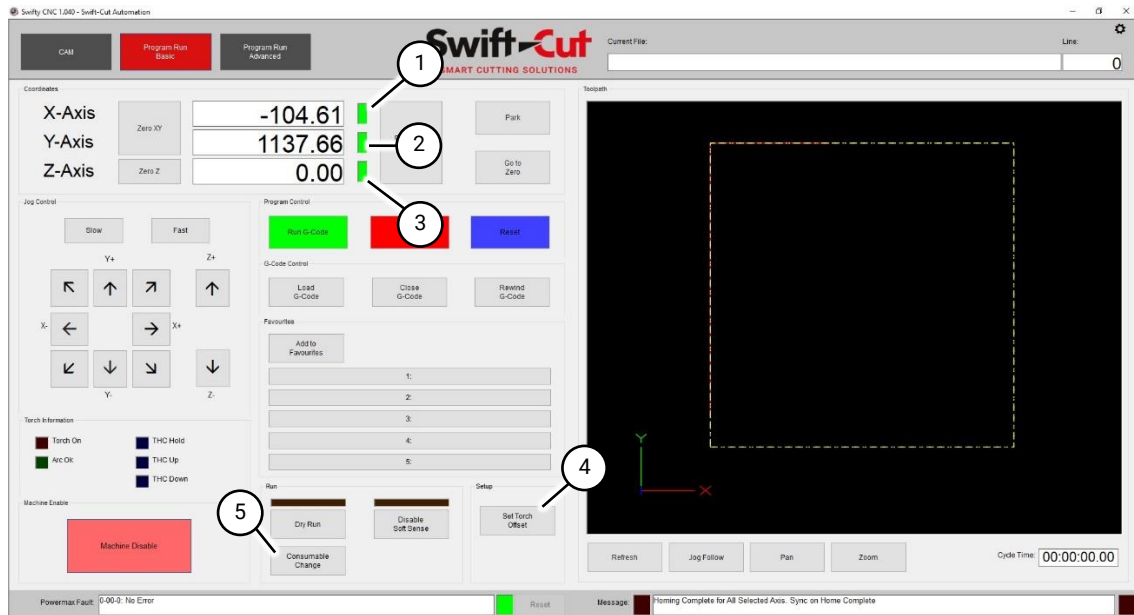

Fig 65 X, Y and Z axis illuminated
5. The X, Y and Z axis reference indicators (Fig 65 (1), (2) and (3)) will illuminate green once the reference operation is completed.
- 1.1 Using the onscreen jog controls or keyboard directional arrows jog the torch over the material and select the 'Set Torch Offset' button (Fig 65 (4)). This sets the offset between the soft sense and the end of the torch.
- 2.1 Press the Consumables Change button (Fig 65 (5)).